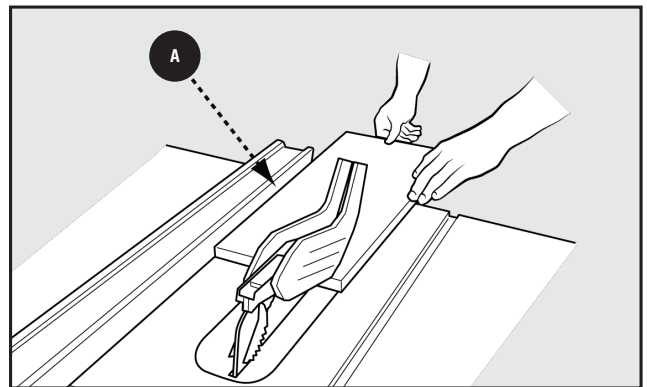

Figure 57
9. Hold the workpiece flat on the table and against the fence **A**. The workpiece **MUST** have a straight edge against the fence and **MUST NOT** be warped, twisted or bowed. See proper hand position in Figure 57.